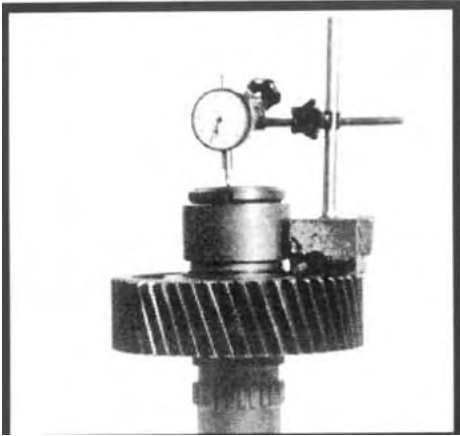

Figure 6.16
2. With its external teeth facing upward, slip the clutch collar over the shaft as shown in Figure 6.16.